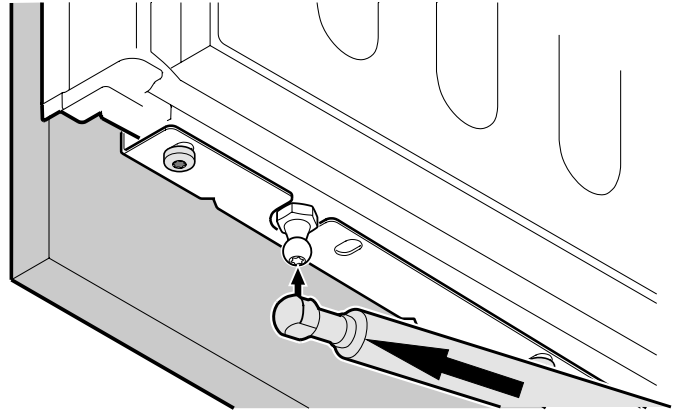

Figure 32
13. Extend the soft-stop cylinder and connect with the ball stud (**Figure 32**).